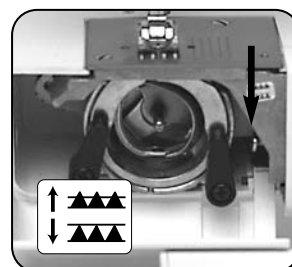

Fig. 6
4. Push down on the drop feed lever and the feed teeth will drop below the needle plate [Fig. 6].